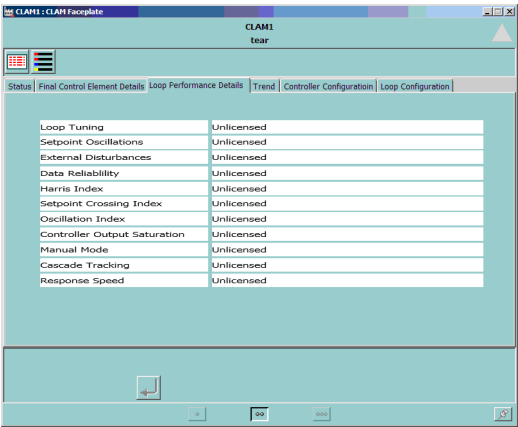

Figure 46. Loop Performance Details (Unlicensed)
- **Loop Performance Details (Figure 46):** Used to view Control Loop Asset Monitor summary results. Diagnosis information does not appear in the figure as it is under unlicensed mode.